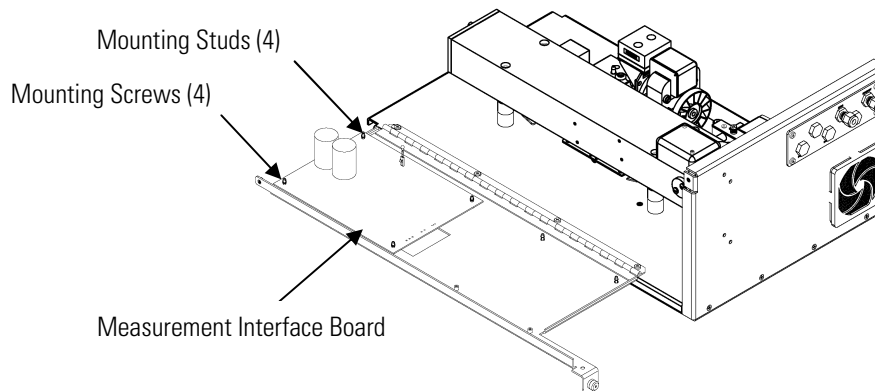

Figure 7-17. Replacing the Measurement Interface Board
Use the following procedure to replace the measurement interface board (Figure 7-17).
2. Unplug all connectors from the measurement interface board (Figure 7-17). Note the locations of the connectors to facilitate reconnection.